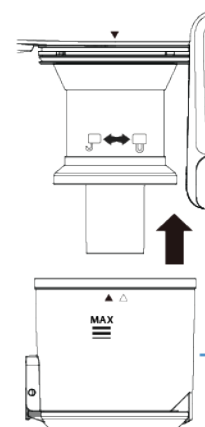

Figure 6
6. Replace the Dust Bin Assembly by pushing it up under the Main Body and aligning the arrow on the right of the Dust Bin Assembly with the arrow on the Main Unit. (Figure 6)
7. Rotate the Dust Bin Assembly to the right until the arrow on the main Body is aligned with the arrow on the left of the Dust Bin Assembly. (Figure 6)